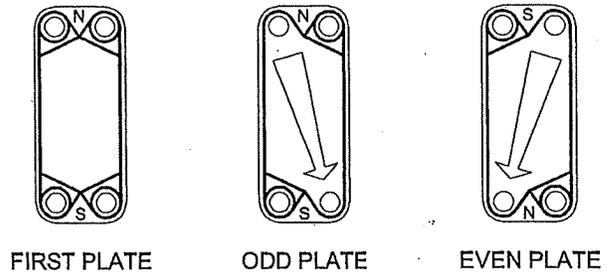

Figure 1.8 Models with Diagonal Flow - VIEX special designs
**Model-Diagonal Flow:** ODD and EVEN plates are different from each other and are not interchangeable without replacing the gaskets. (See figure 1.8 below.)